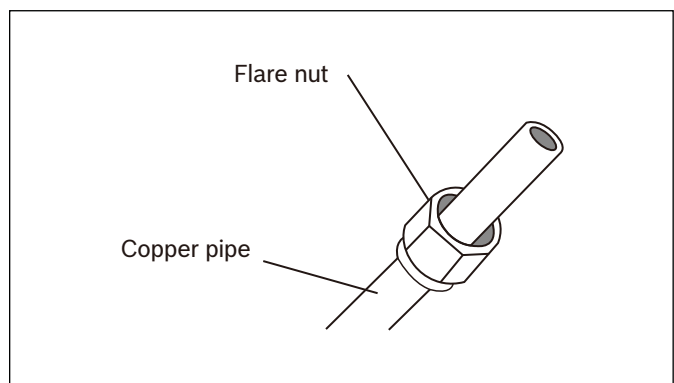

Figure 26
3. Place flare nuts on both ends of pipe. Make sure they are facing in the proper direction, because you can't put them on or change their direction after flaring. See Figure 26.